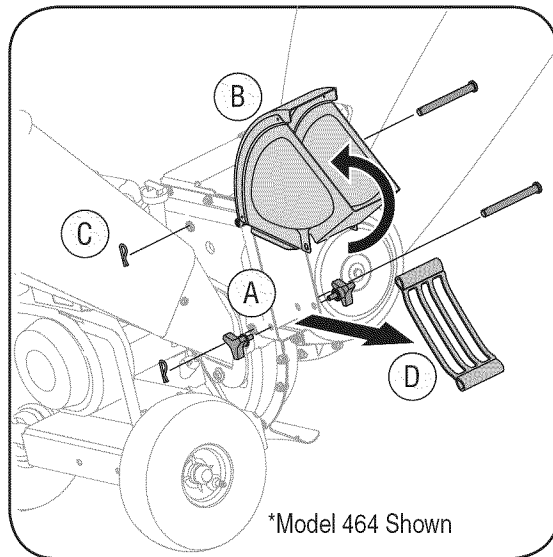

Figure 5-2
3. a. Remove the bag and two wing knobs on each side of the chute deflector. See Figure 5-2.
d. Remove the flail screen from inside the housing and clean the screen by scraping or washing with water. See Figure 5-2.